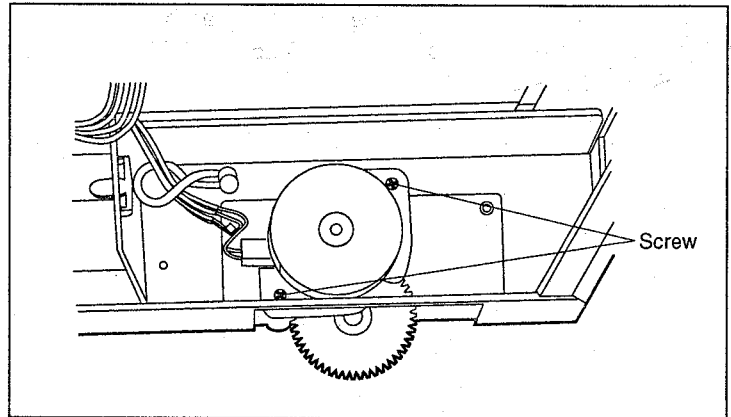

**Fig. 7-27**
- 8) Insert the inner panel as shown in Fig. 7-27.